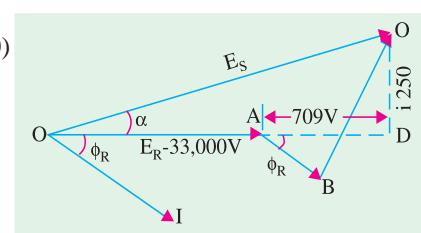

Fig. 41.22
(ii) As seen from Fig. 41.22,  $\alpha = 0^\circ 25'$
**Note.** As seen from Fig. 41.22, approximate line drop is